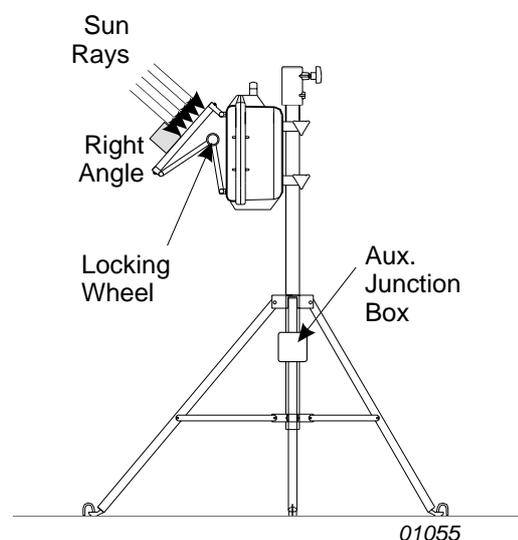

Figure 5: Adjusting the solar panel
27. Loosen the locking wheel on the solar panel attachment and gently pull the bottom of the panel outwards until it is at right angles to the radiation from the sun as shown in Figure 5.